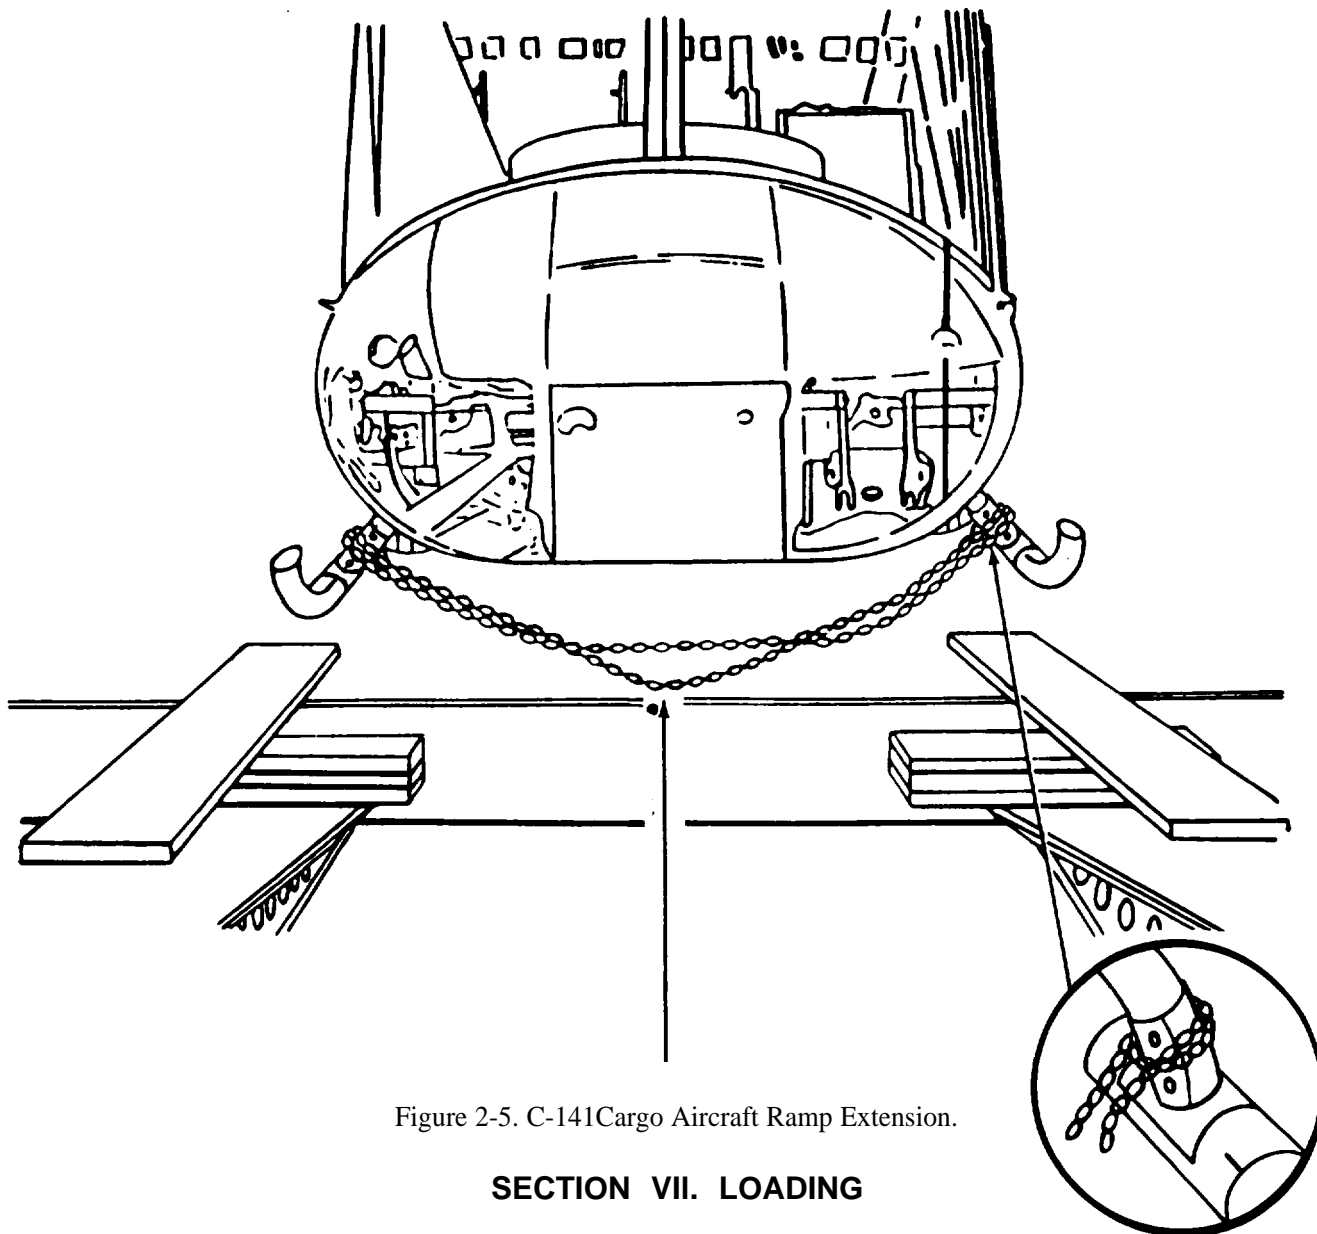

Figure 2-5. C-141 Cargo Aircraft Ramp Extension.
Cargo aircraft are prepared for loading by Air Force crew assisted by Army loading team. Army personnel construct necessary ramp extensions to change angle of approach to cargo aircraft. Use 2" x 12" x 12' planks properly shored to extend the ramp about 10' thus reducing the angle of inclination. This keeps skid tubes from scraping the ground or gouging the ramp. Figure 2-5 shows a ramp extension for a C-141.
(2) To pull helicopter up ramp (figure 2-5) into cargo aircraft with aircraft winch proceed as follows (Air Force crew rig and operate winch while Army personnel maneuver helicopter as directed by loadmaster):